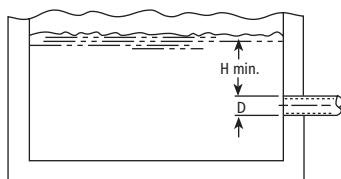

Figure 3
- Insure that the size and minimum submergence over suction inlet is sufficient to prevent air from entering pump through a suction vortex. See Figures 3 through 6.